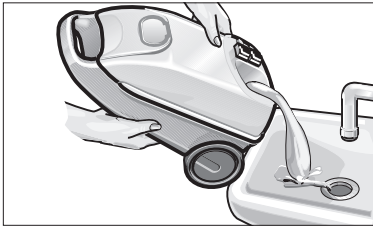

Fig. 4: Cleaning the boiler
- Fill the boiler with water and shake the cleaner vigorously. This will loosen any scale that has settled at the bottom of the boiler. Tilt the cleaner towards the corner with the funnel inlet (A3) and pour out the water (see Fig. 4).
- Make sure that all traces of water are drained from the boiler (see Fig. 4).